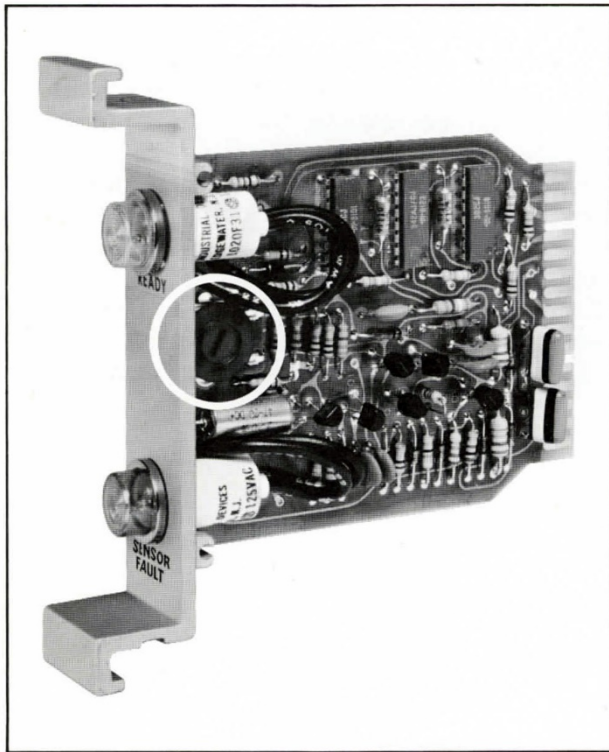

Figure 35. The Blue, Ready Sensor Fault Detection Timer.
2. Remove the IC-300 Module, and temporarily adjust the blue, Ready Sensor Fault detection timer to the "50 second" position (rotate clockwise fully). Re-seat the module in the IC Controller (see Figure 35).